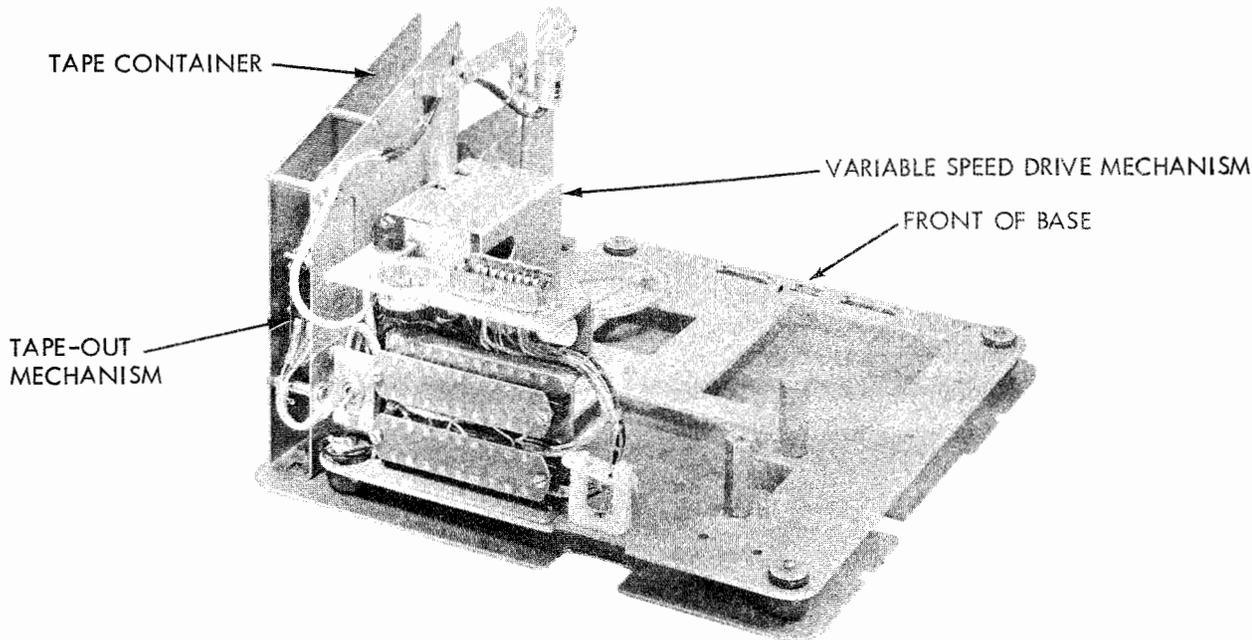

Figure 1 - 28 Receive-Only Reperforator Base (Rear View)
1.05 References made to left or right, up or down, front or rear, etc apply to the unit as viewed from the front (Figures 1, 2, 3 and 4).